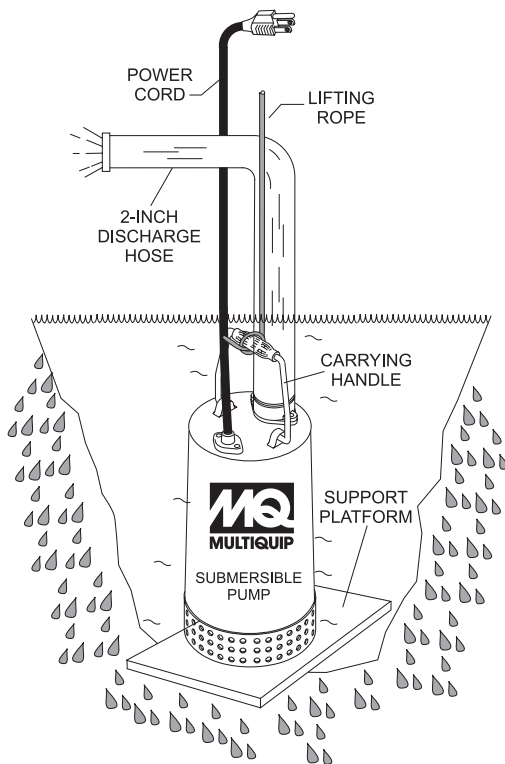

Figure 8. Submersible Pump Upright Position (Correct)
1. Connect a 2-inch hose to the discharge port on the pump as shown in Figure 8. Make sure that the hose is attached correctly to the discharge port.
1. Attach a suitable lifting cable (rope) to the carrying handle (Figure 8) on the pump and lower the pump into place. For applications where there is an excessive amount of mud, grit or silt, the use of a support platform is desirable. When pumping water from swimming pool type applications where there is little or no debris, the support platform is not required